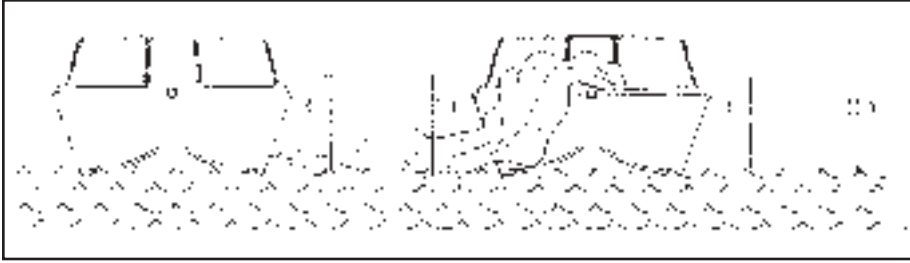

FIGURE 2-6 VESSEL ALONGSIDE
**Exhaust Fumes!** Generator or hull exhaust from other vessels while either docked or anchored can emit poisonous carbon monoxide gas and cause excessive accumulation within cabin and cockpit areas. See Figure 2-6. Be alert for generator exhaust from other vessels alongside.